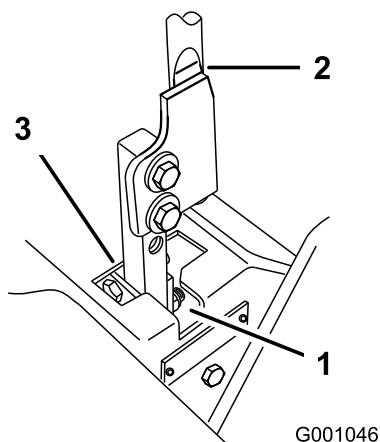

Figure 77
5. Move the lever to the neutral position but not locked (Figure 77).
6. Pull the lever back until the clevis pin (on arm below pivot shaft) contacts the end of the slot (just beginning to put pressure on the spring) (Figure 77).
7. Check where the control lever is relative to notch in console (Figure 77). It should be centered allowing lever to pivot outward to the neutral lock position.